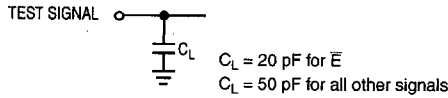
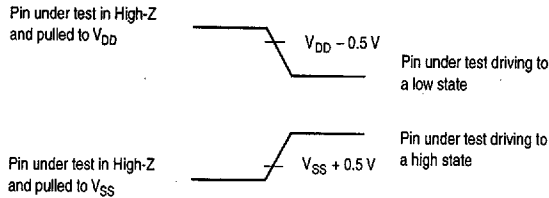

Figure 6-2. Signal Loading for Timing Specifications Unless Otherwise Specified
Figure 6-5. Test Point Levels for Three-State-to-Driven Time Measurements
- The three-state condition is when the device is not actively driving data. Refer to Figure 6-2, Signal Loading for Timing Specifications Unless Otherwise Specified, and Figure 6-5, Test Point Levels for Three-State to Driven Time Measurements, for detailed measurement information.